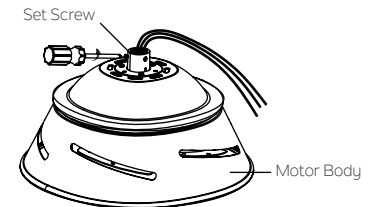

Fig. 7
Step 3. Loosen the two set screws on the motor coupling. (Fig. 7)